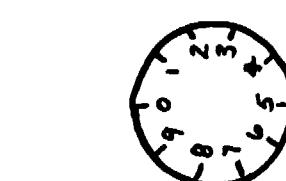

FIGURE 2
- 4) With a marking pen, mark off the other two small circles as in figure 2.